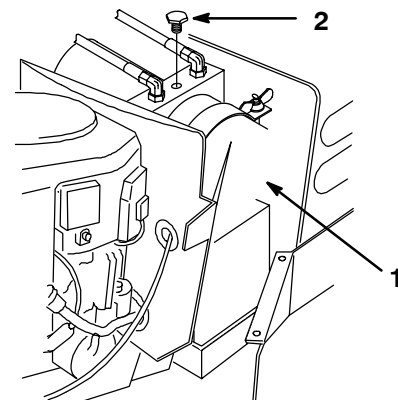

Figure 12
4. Remove the plug on top of the power lift pump (Fig. 12). Fluid should be level with the bottom of the hole.